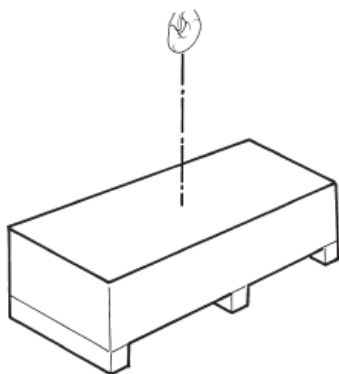

fig.65
- ▶ **ALWAYS** make sure that you have centred the hoist hook directly above the load before slinging and moving it (fig. 65).